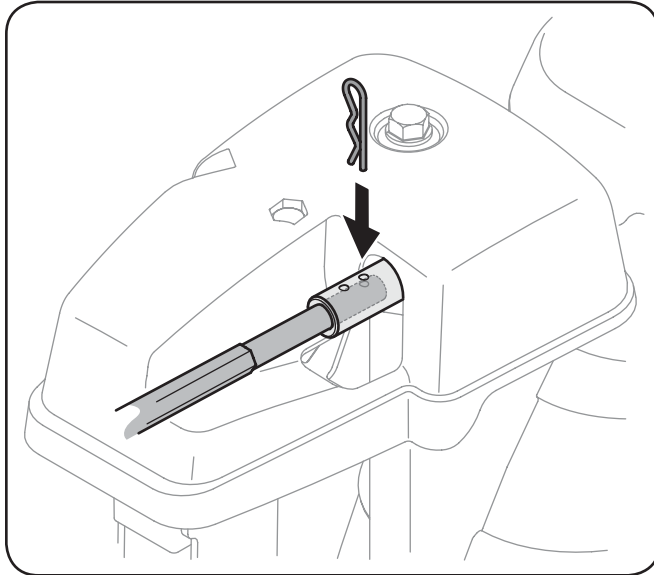

Figure 3-12
7. Push the chute control rod toward the control panel until the hole in the rod lines up with the hole in the chute control input closest to the chute control head and insert the cotter pin. See Fig. 3-12.